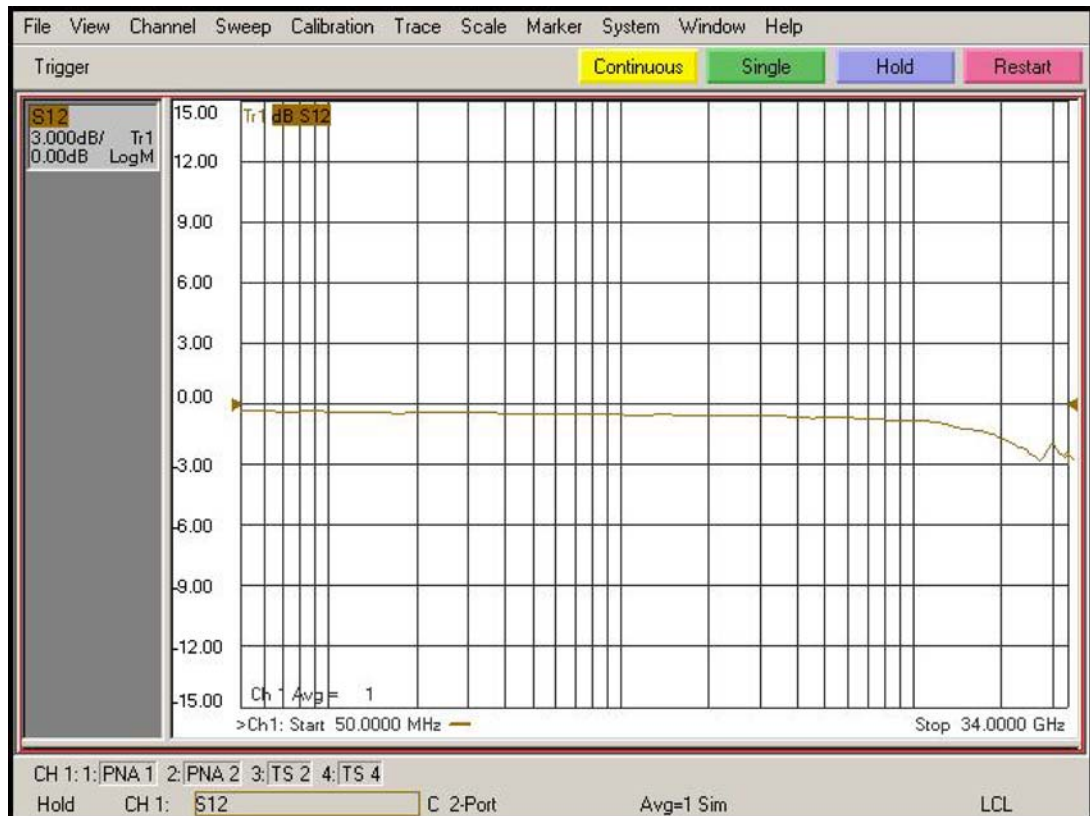

Figure 57 De-embedded “Vin” trace
- 8 Trigger VNA to perform a single sweep. a. Press "Trigger" under Channel Setup, and then the green soft-key for "Single". Display should look like Figure 57. If it looks noticeably different, the probe tip wires may not be making contact under the pinchers.